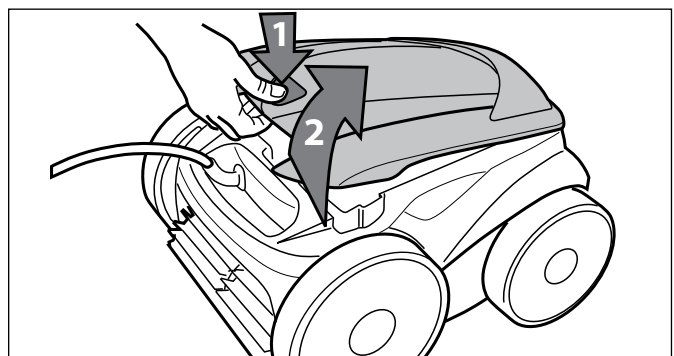

Figure 24. Lift Cleaner Cover
5. Push the cover lock (1) and lift the cover (2) until it is secured in the vertical position. (Figure 24).